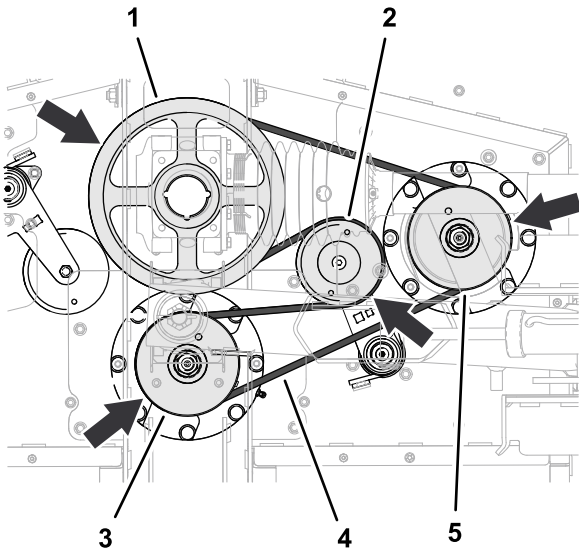

Figure 62
1. Route the long belt around the drive pulley, upper groove of the center-spindle pulley, and right-spindle pulley (Figure 62).
2. Use a breaker bar or similar tool to rotate the belt tensioner counterclockwise and slip the belt over the tensioner pulley (Figure 62).